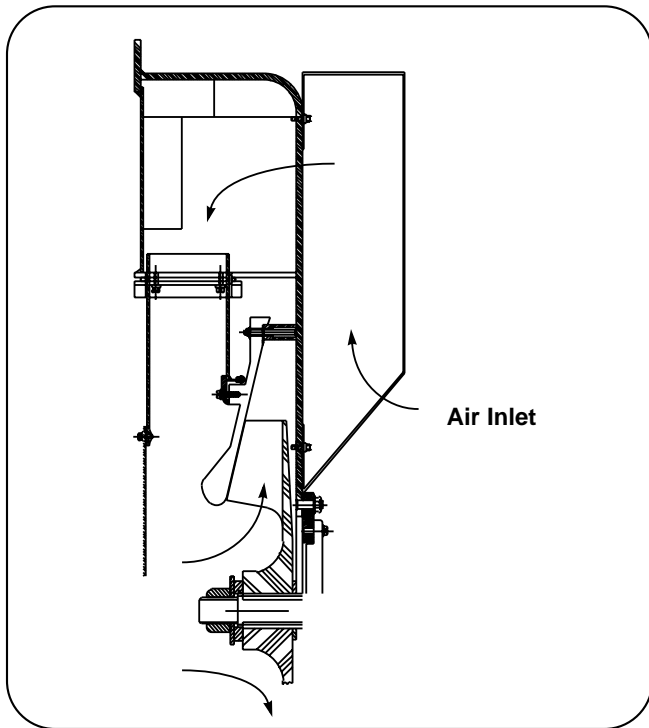
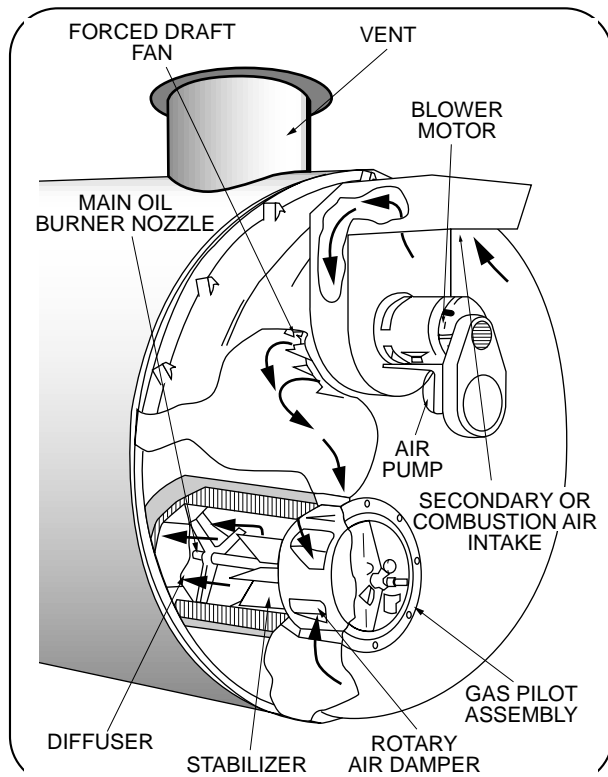
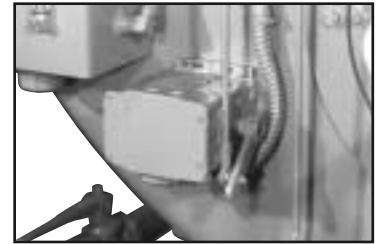

Figure: 2-2 Air Intake Through Front Head (CB-LE)
Figure: 2-3 Secondary Air Flow (Standard CB)
Figure: 2-4 Modulating Motor
Combustion air is provided by a centrifugal blower located in the front head (Figure 2-5, 2-6). Combustion air flow diagrams for both the CB-LE and the standard CB boiler are shown in figure 2-2 and figure 2-3. Combustion air delivery to the burner is under the control of the modulating motor (Figure 2-4). The motor also regulates the flow of fuel through a linkage system connected to the gas butterfly valve and/or oil through a cam-operated metering valve. Fuel input and air are thus properly proportioned for most efficient combustion.
3. MODULATING MOTOR (FIGURE 2-4)
3. Modulating Motor (Figure 2-4 & 2-9): Operates the rotary air damper and fuel metering valves through a cam and linkage system to provide proper air/fuel ratios under all boiler load conditions.